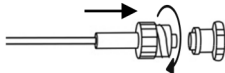

Figure 2
4. Connect a separate gas sampling line (male Luer connector) to the respiratory gas monitor as shown in Figure 2.